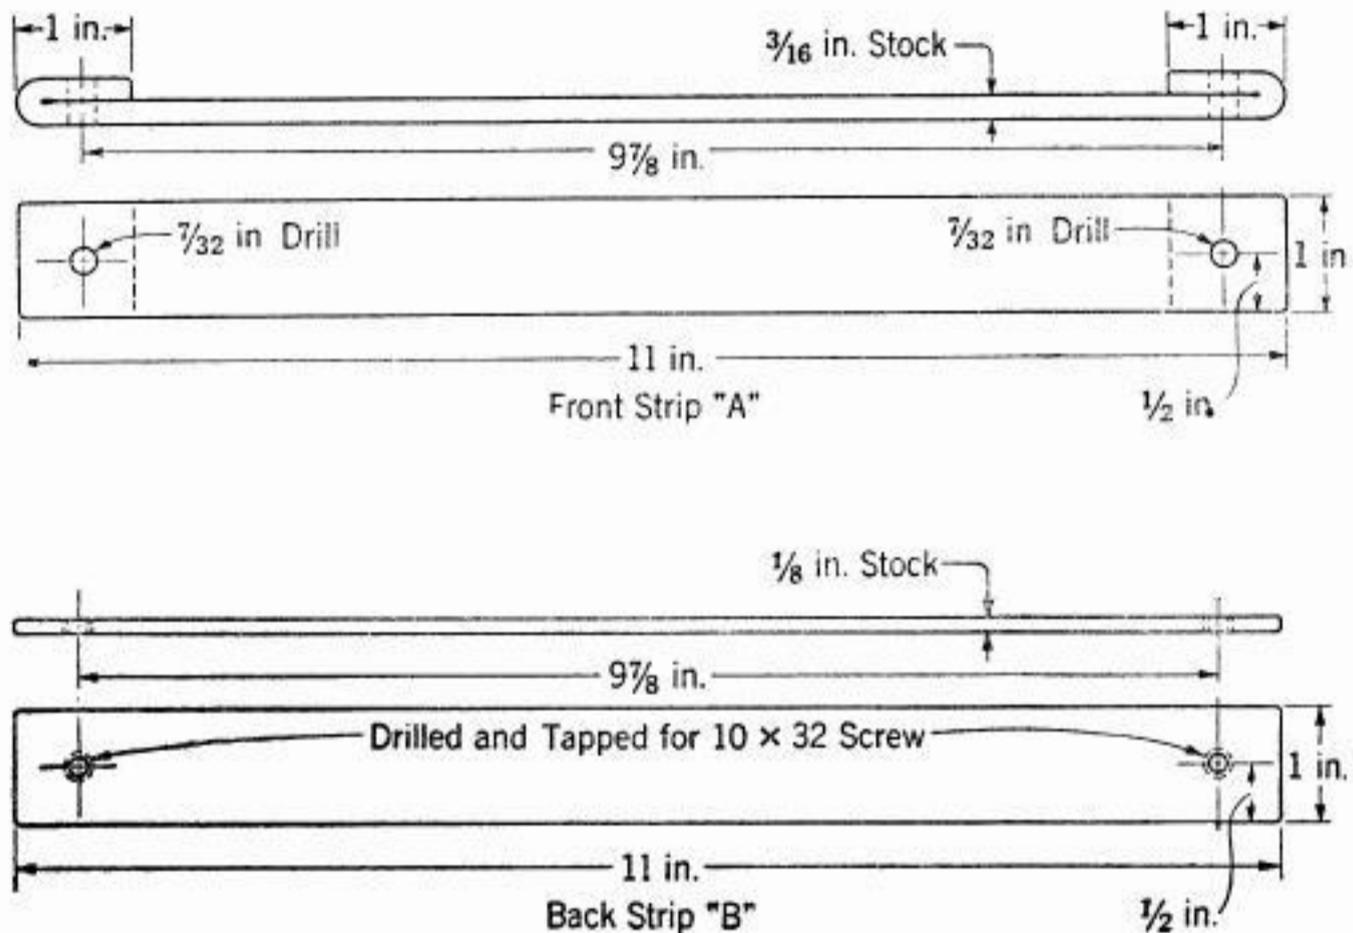

Fig. 1
2.01 Fig. 1 shows the materials required to make up the bracket and the manner in which they are assembled. The bracket consists of:
2.02 Fig. 1 shows the dimensions of the front and rear bracket. The bracket should be finished to approximately match the grille on which it is fastened.